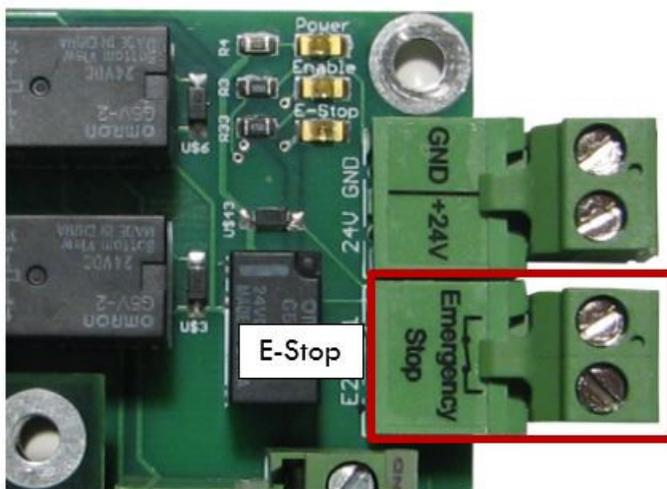

Figure 3 - Apollo E-Stop Connection
2. The E-Stop circuit goes from the back of the mushroom E-Stop button (see Figure 1) to the motion controller E-Stop connection (see Figure 3 for an example).